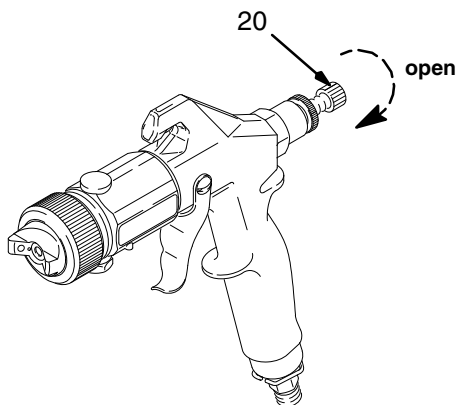

Fig. 5 02968
1. Turn the fluid adjustment knob (20) counterclockwise until no restriction of the trigger movement is felt. See Fig. 5.